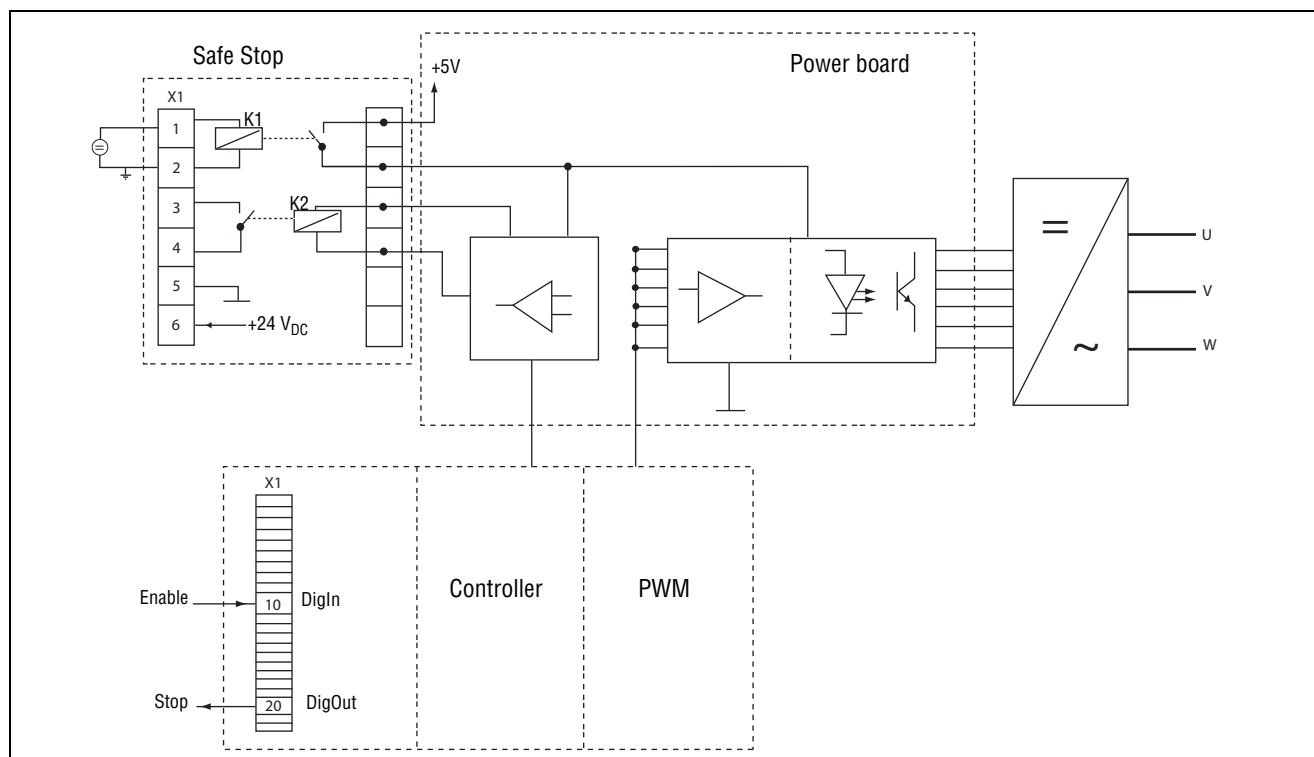

Fig. 136
- "Inhibit" input, terminals 1 (DC+) and 2 (DC-) on the Safe Stop option board should be made active by connecting 24 V_{DC} to secure the supply voltage for the driver circuits of the power conductors via safety relay K1. See also Fig. 136.
- High signal on the digital input, e.g. terminal 10 in Fig. 136, which is set to "Enable". For setting the digital input please refer to section 11-5-2, page 200.
To monitor the "Enable" function, the selection "RUN" on a digital output can be used. For setting a digital output, e.g. terminal 20 in the example Fig. 136, please refer to section 11-5-4, page 209 [540].